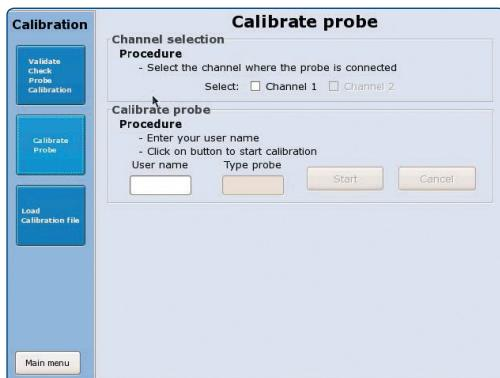

Figure 2: Start of the sensor unit calibration.
4. Enter the user name and press start (Figure 2).